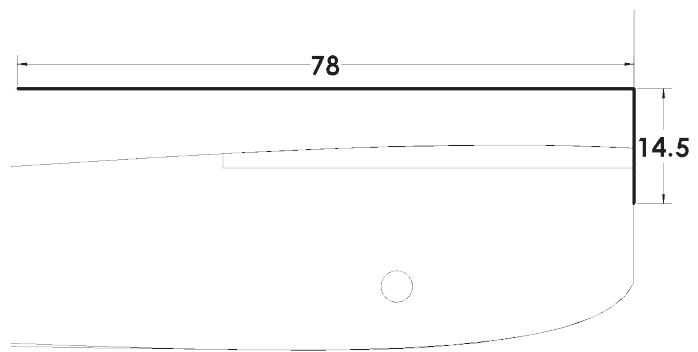

Fig. 34
Step 9. Dimension as shown in **Fig. 34**.